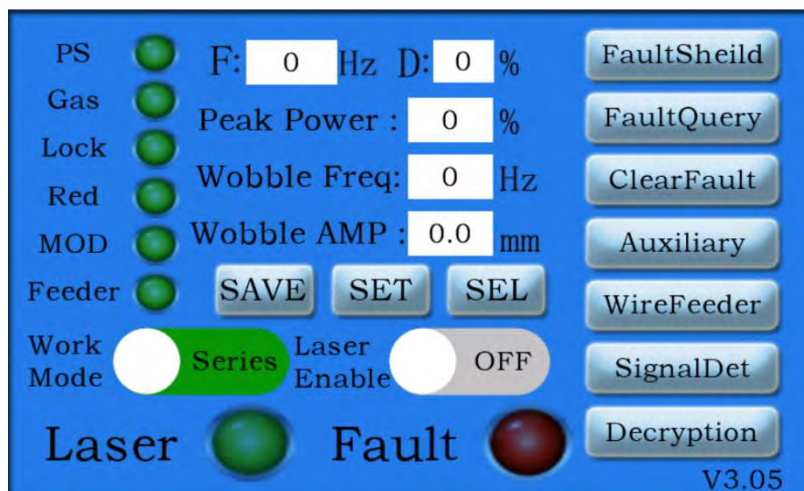

Figure 5.2 Main interface of touch screen
- (1) Connect to designated power source.
- (2) Connect to the specified gas.
- (3) Turn the air switch to power on the laser welder.
- (4) Check red light and protective window mirror.
- (5) Click the Peak power, Wobble Freq and Wobble AMP on the main interface in sequence to set the appropriate parameters (As shown in Figure 5.2).
(1) As shown in Figure 5.2, the working mode of the main interface is set to spot welding.